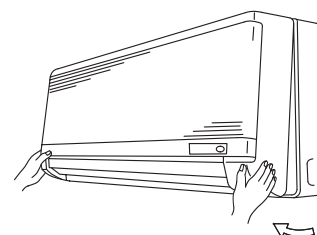

Fig. 3-55
(6) Remove the grille. (Fig. 3-55)